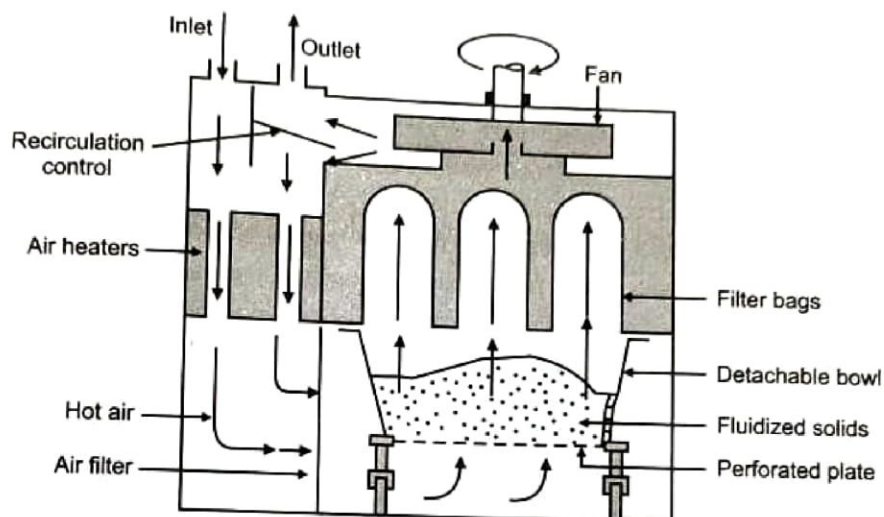

Fig. 4.17: Vertical Fluidized Bed Dryer
2. A typical FBD, Fig. 4.17, consists of the air handling unit, product container, exhaust filter, exhaust blower, control panel, air distribution plate, spray nozzle, and solution deliver.